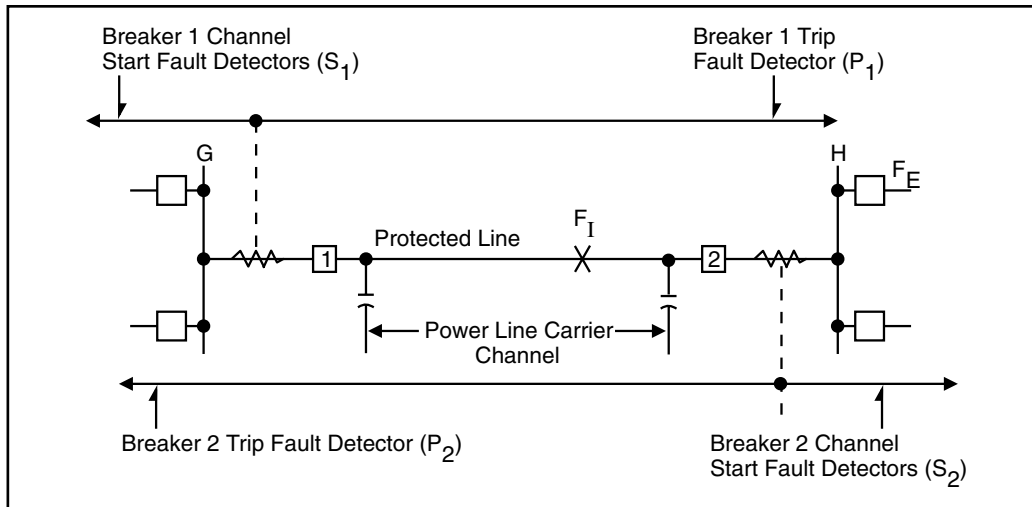
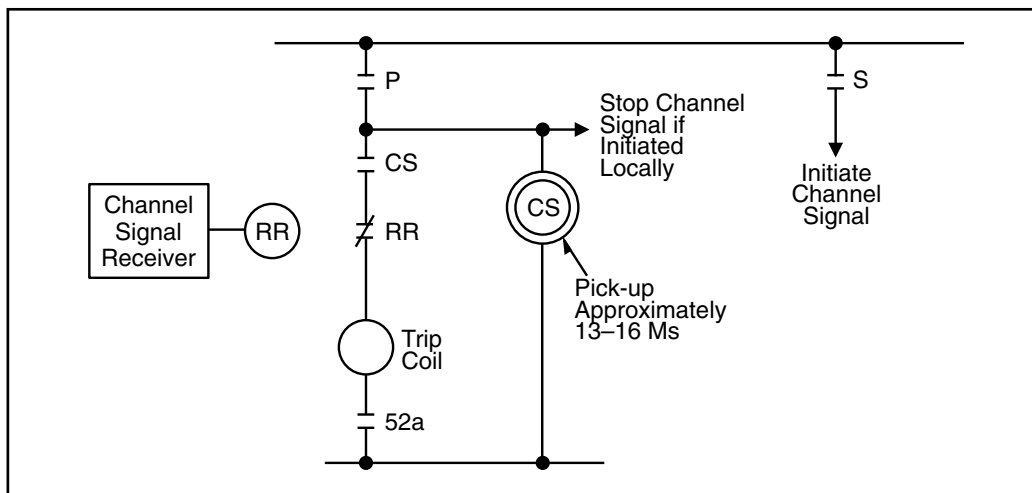

Figure 2-1a. Basic Elements.
Figure 2-1b. Contact Logic (per Terminal).
The basic elements for directional-comparison blocking systems are shown in Figure 2-1a and Figure 2-1b. At each terminal, the phase and ground trip units (P) must be directional and set to overreach the remote terminal; that is, they must be set to operate for all internal faults. Nominal settings of the distance units are 120 to 150 percent of the line. The start units (S) must reach farther, or be set more sensitively, than the remote trip units. Thus S1 must be set more sensitively than P2 or reach farther behind bus G. Likewise, S2 must be set more sensitively than P1 or reach farther behind bus H. In any case, the S and P relays should be similar in type. If the trip unit (P) is a directional overcurrent ground relay, the start (S) ground relay should be a similar non-directional overcurrent unit. The same principle applies for the phase relays.
Operation of the directional-comparison scheme (shown in Figure 2-1a and Figure 2-1b) is internal faults. Subscript 1 indicates relays at station G for breaker 1; subscript 2, relays at
station H for breaker 2. (Figure 2-1c shows a solid-state logic version of Figure 2-1b.)